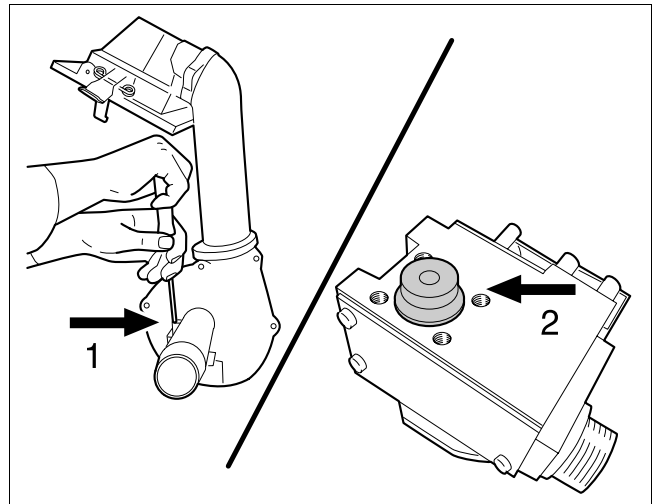

Fig. 4
- Loosen the three Phillips screws (fig. 4, **pos. 1**) and remove the gas valve from the fan unit.
- Remove the gas orifice (fig. 4, **pos. 2**).